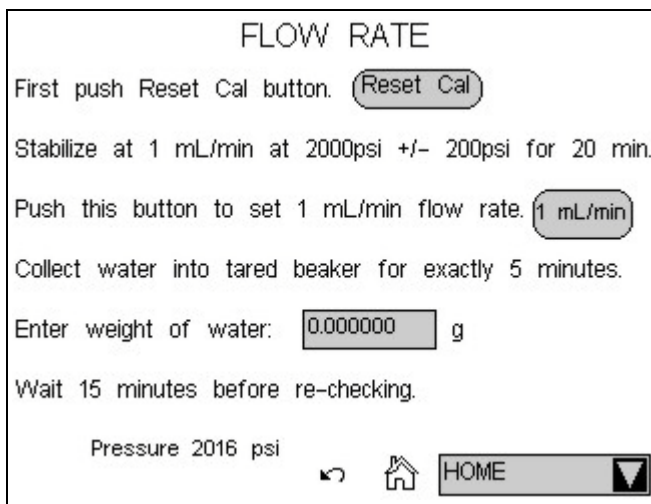

Figure 5-5. Flow Rate Page
1. Open the Dionex ICS-2100 Wellness Panel in Chromeleon (see Section 5.1.1), or open the Dionex ICS-2100 touch screen **FLOW RATE** page (see Figure 5-5).